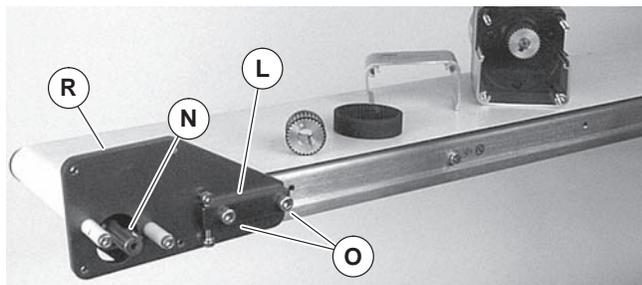

Figure 5
- Attach mounting bracket (Figure 5, item R) and tensioner bar (L) with screws (O). Hand-tighten screws (O).
- Install key (Figure 5, item N).